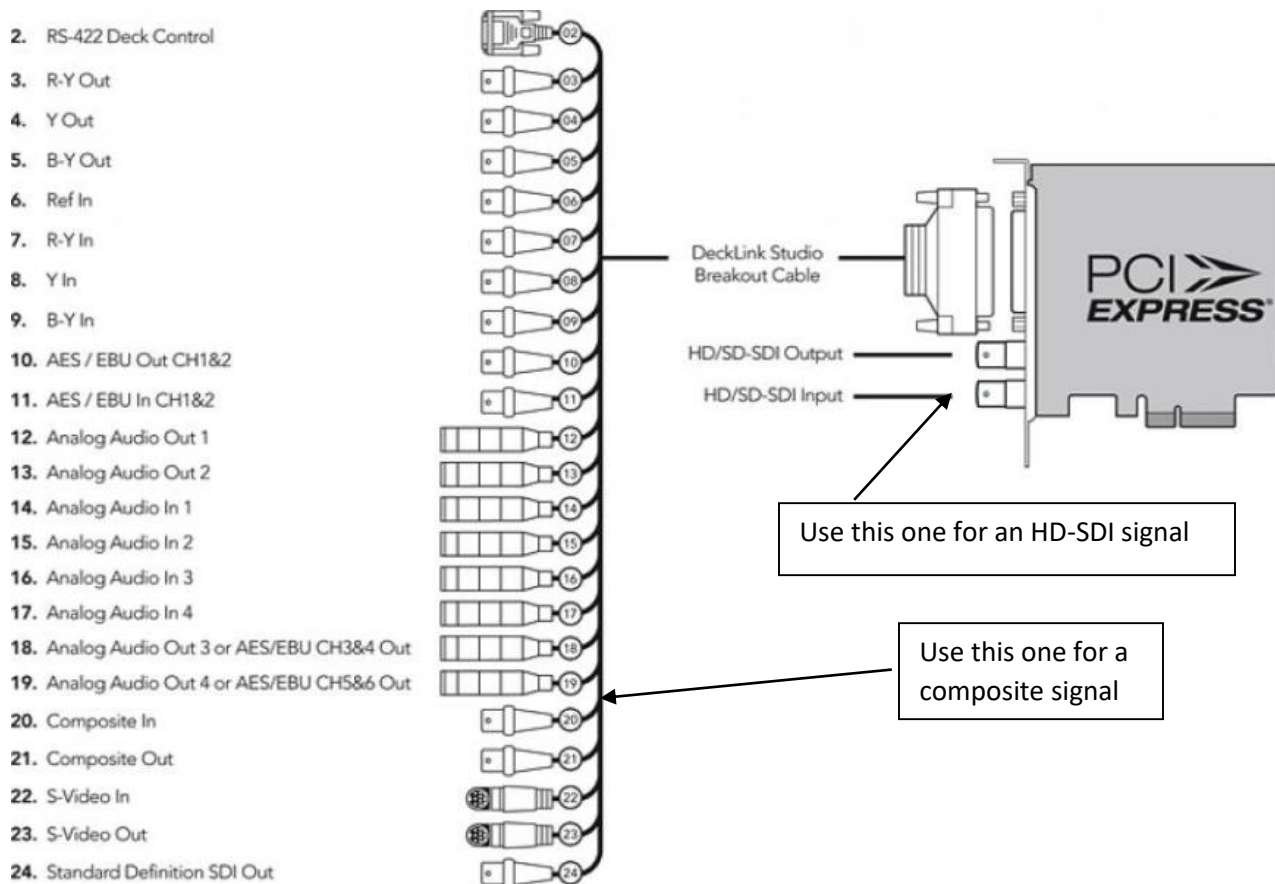

Figure 10-2
- ii. The video input is connected to the wrong port. This can be common with a composite single connected to the HD-SDI input on the DeckLink Studio 4k cards because they can both use coaxial BNC connectors. Figure 10-2 shows the proper place to connect a composite signal, from a TC-40 for example. Note that if you are using HDMI input, the bottom port is the input – in line with the SDI inputs on the main PCI card shown below.